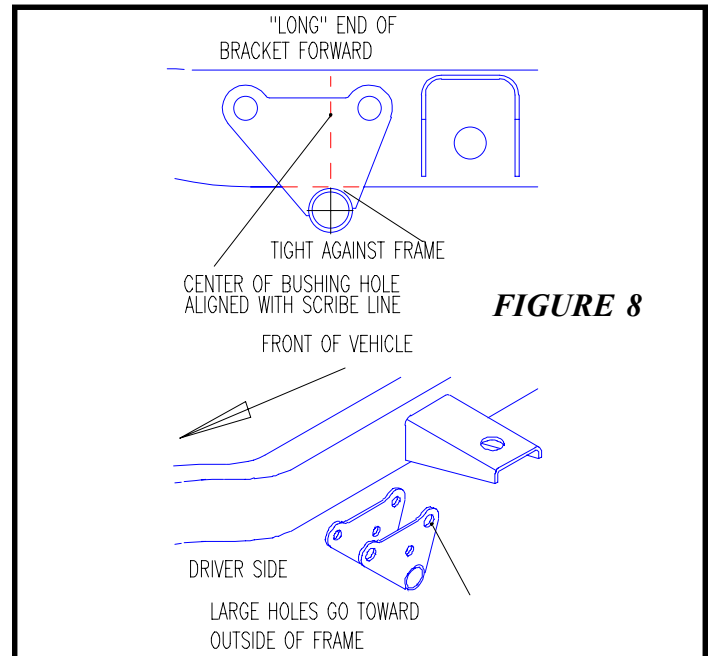

FIGURE 8
- Place the DRV side rear mount bracket (960610) onto the DRV side frame rail as shown in *figure 8*.